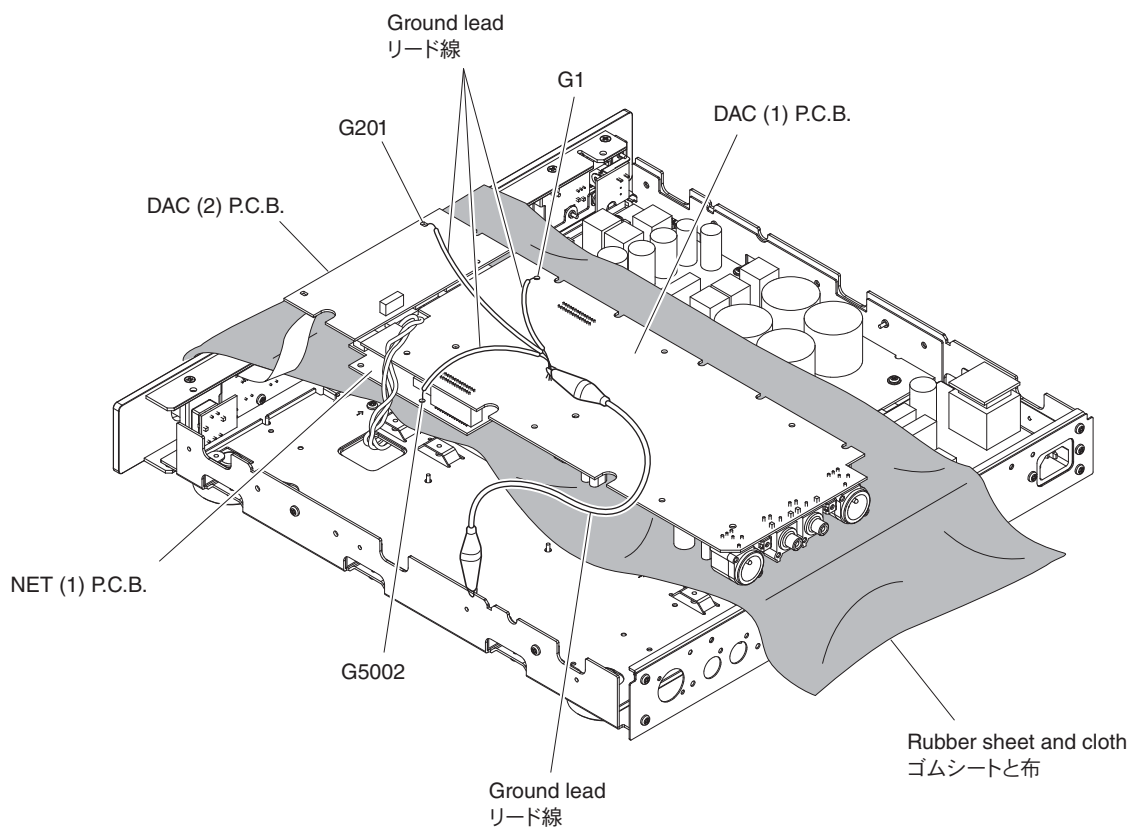

Fig. 8
- Put the rubber sheet and the cloth over this unit, and place the DAC (1), DAC (2) and NET (1) P.C.B.s on them. (Fig. 8)
- Connect G1 on DAC (1) P.C.B., G201 on DAC (2) P.C.B. and G5002 on NET(1) P.C.B. to the chassis with a ground lead or the like. (Fig. 8)
- 本機の上にゴムシートと布を敷き、その上に DAC (1)、DAC (2)、NET (1) P.C.B. を置きます。(Fig. 8)
- DAC (1) P.C.B. の G1、DAC (2) P.C.B. の G201、NET (1) P.C.B. の G5002 をリード線等でシャーシに接続します。(Fig. 8)